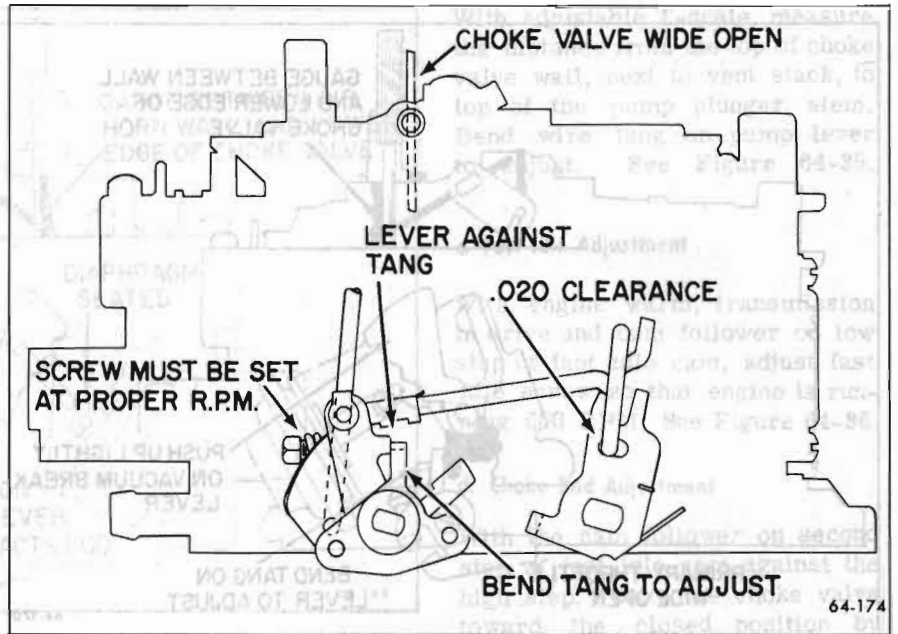

Figure 64-44—Secondary Closing Adjustment
2. Check for .020 clearance between actuating link and front of slot in secondary lever with tang of actuating lever against pin. See Figure 64-44.